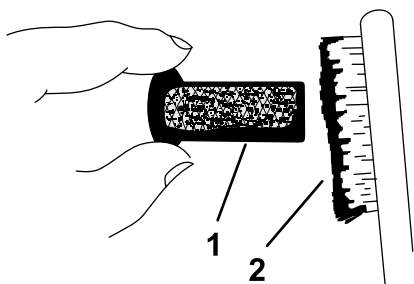

Figure 50
9. Use a brush to carefully remove carbon deposits from the spark-arrester screen (Figure 50).